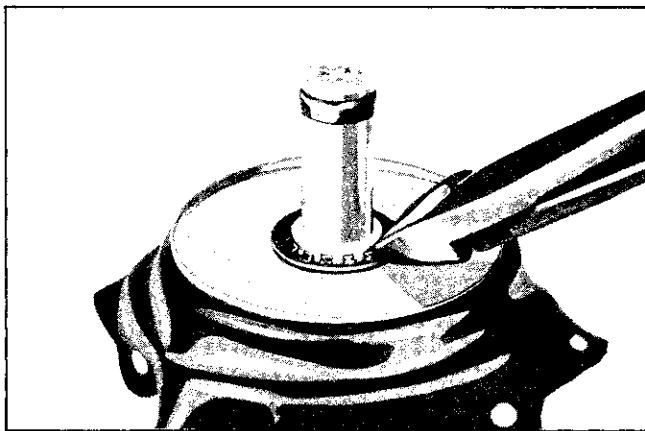

Fig. 4-17 Removing Diaphragm Retainer
1. Remove diaphragm retainer with diagonal pliers and discard retainer (Fig. 4-17).